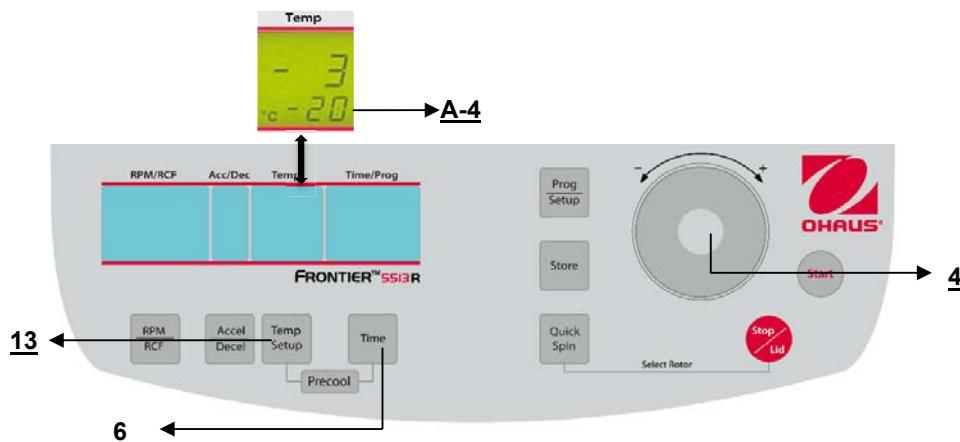

Figure. 16
The value is indicated permanently in the display (figure 16) - before, during and after the run.
Close the lid, then press the key "Time" (7) (refer to figure 16) and the key "Prog/Setup" (3) at the same time and hold them.